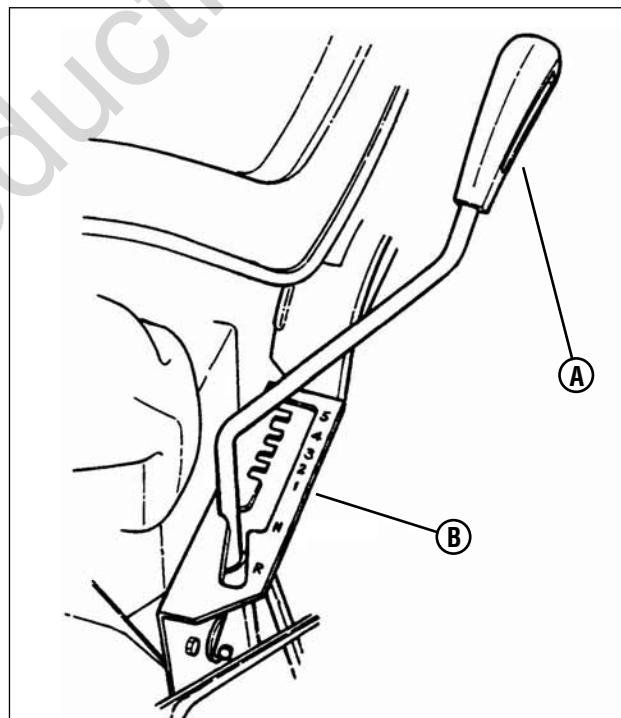

Figure 12: Transmission shift lever
3. Place the transmission shift lever (A, **Figure 12**) into the first forward speed notch (B).